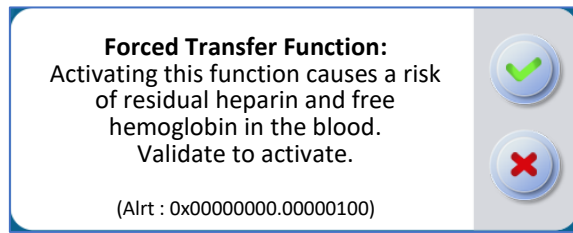

Figure 111: Forced Transfer Function Screen
- The following message appears in the information box on the screen (see Figure 111):